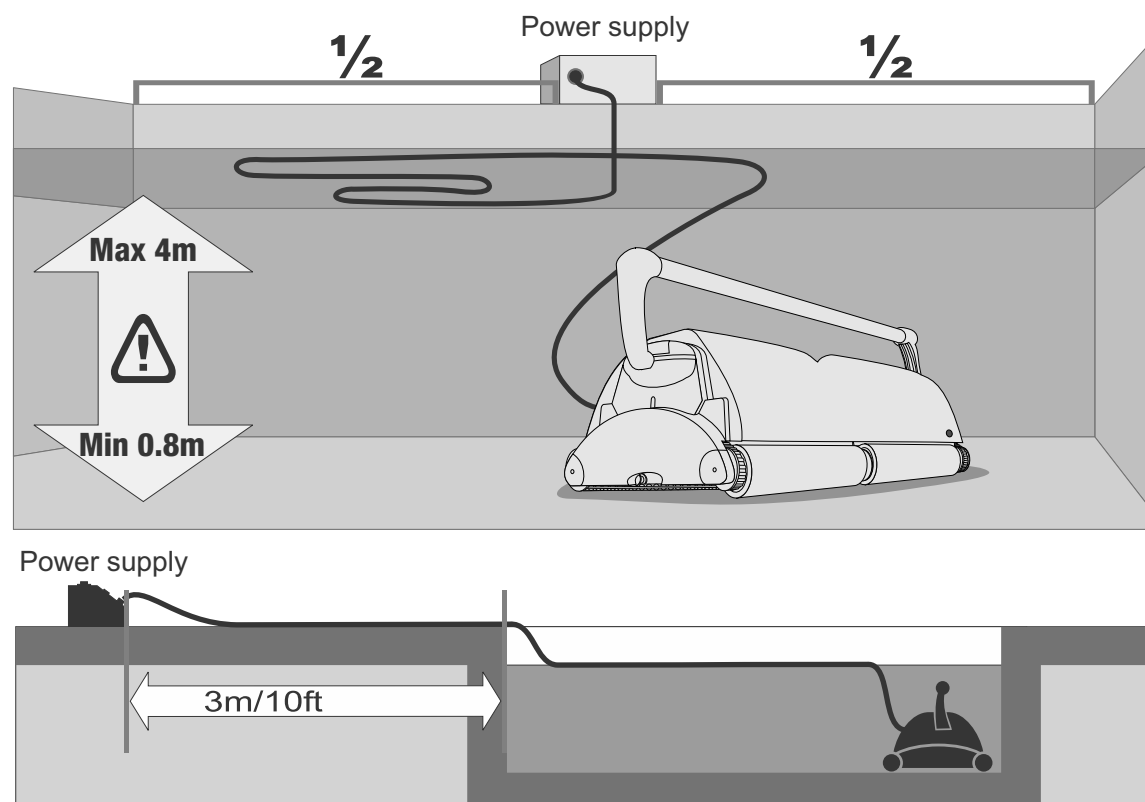

Fig. 1
The power supply unit should be placed in any sheltered area, at least 3 meters (10 feet) away from the swimming pool. Additionally, the power supply should not be left out in rain or placed in puddles of water. If possible, place the power supply half the distance of the length of the pool. (fig.1)
- 4) Uncoil the floating cable fully and spread it over the pool water surface as evenly as possible. Make sure the cable has no tangles or kinks. (fig. 1)